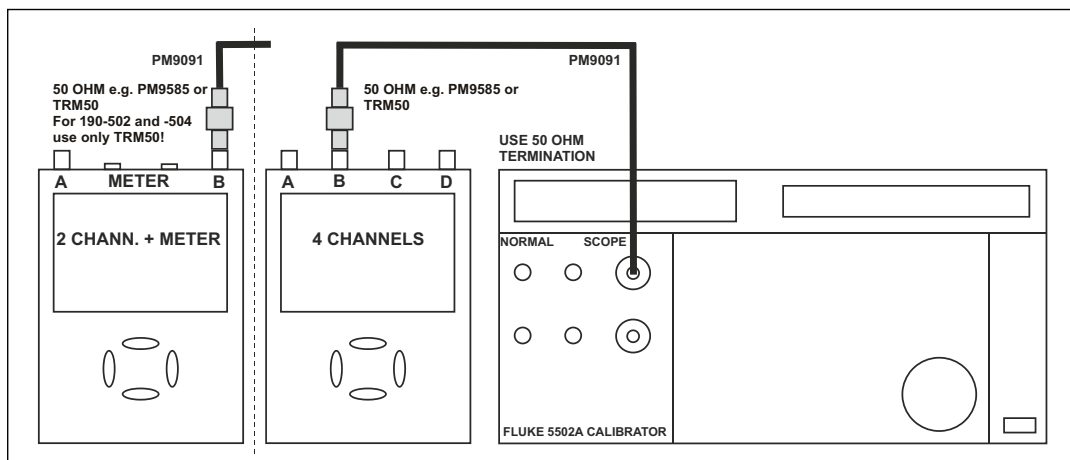

Figure 5-4. 5502A SCOPE Output to Test Tool Input B
2. Connect Ch. B of the Test Tool to the 5502A as shown in Figure 5-4.